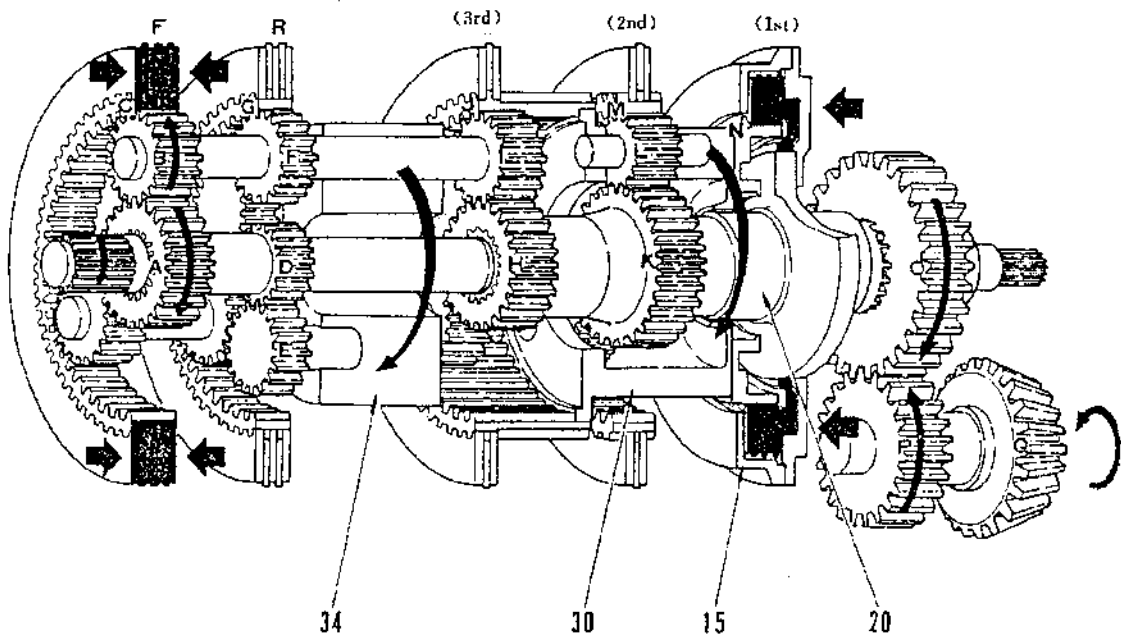

Fig. 2-21 Forward 1st speed transmitting line
1. Forward 1st speed transmitting line (See Fig. 2-21).